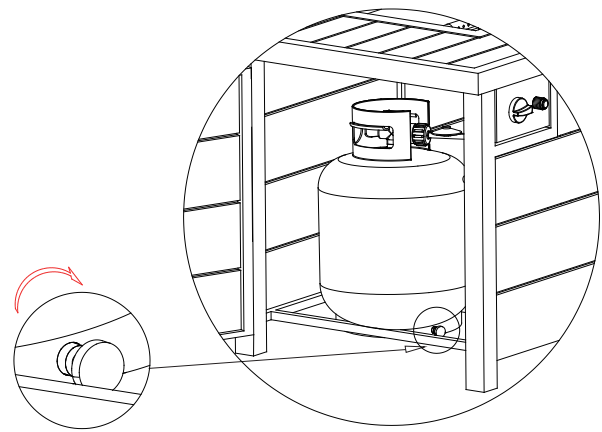

Figure 5
5. Secure the cylinder by tightening clockwise the Adjusting screw found on the metal stand (see Figure 5), so that the cylinder cannot move from side to side or fall down.